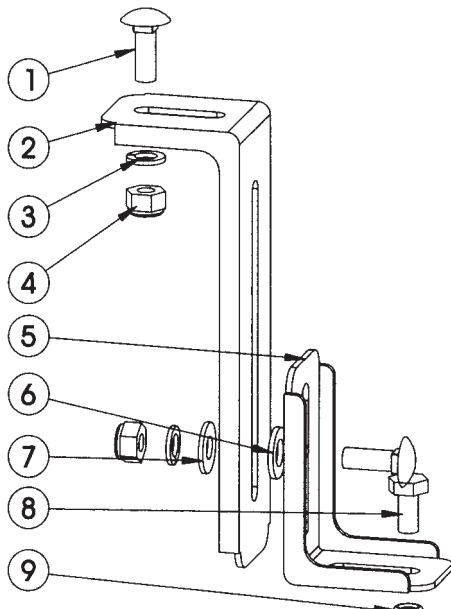

FIGURE 1
7. Using a carriage bolt, 5/16in. washer, 1/4in. washer, lockwasher, and hex nut, attach the bracket arms together loosely. See FIGURE 1.